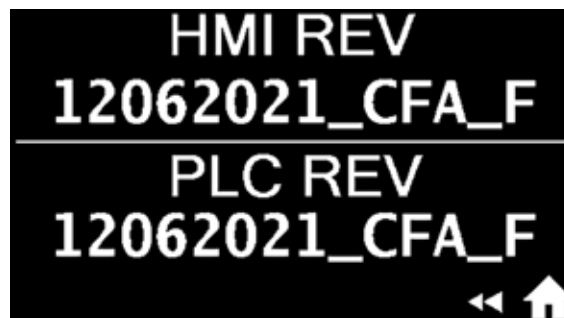

Fig. 43a - Revision Version
3. The revision number, (Fig. 43a) automatically changes when a new program is installed.